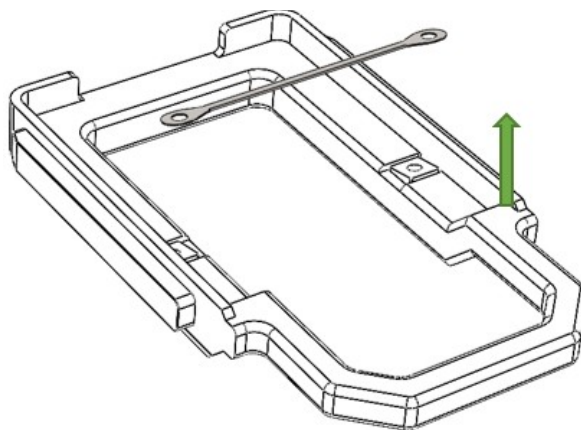

Figure 7. Blade disassembly method. View 4
4. Replace the blade and reinstall all of the previously removed fastening components. Make sure the cutting edge is oriented correctly (Figure 7).